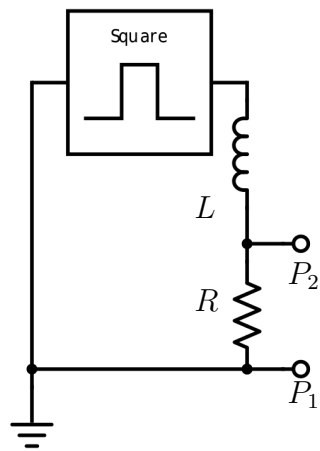

Figure 4: Circuit diagram with resistors in series and parallel.
- 3) Calculate the  $L/R$  time constant for the circuit in Fig. 4.
Build the circuit shown in Fig. 4, with  $L = 150 \mu\text{H}$  and  $R = 100 \Omega$ , and adjust the frequency of the function generator to 100 kHz, keeping the output voltage levels the same. With the scope ground shield *always* plugged into ground at  $P_1$  verify that the output of the function generator is indeed a square wave.